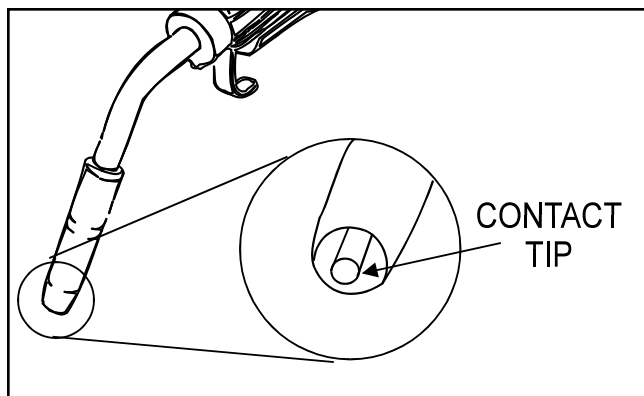

FIGURE A.8 - Contact Tip and Electrode Connections.
2. For other wire sizes, use the following procedure for contact tip and gas nozzle installation. See Figure A.8.
For the short-circuiting transfer process, the contact tip end should be flush to extended to .12" (3.2mm). See Figure A.8.
For the spray transfer process, the contact tip should be flush to recessed .12" (3.2mm). See Figure A.8.